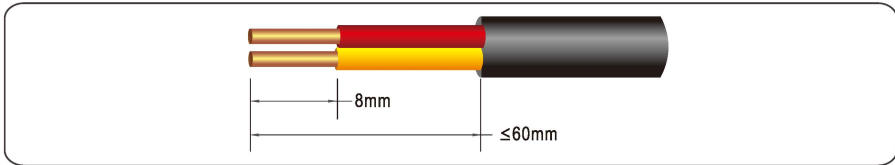

Figure 5.19 Stripping an RS485 communications cable (unit: mm)
Step 1 Remove an appropriate length of the insulation layer from the cable using a wire stripper, as shown in Figure 5.19.